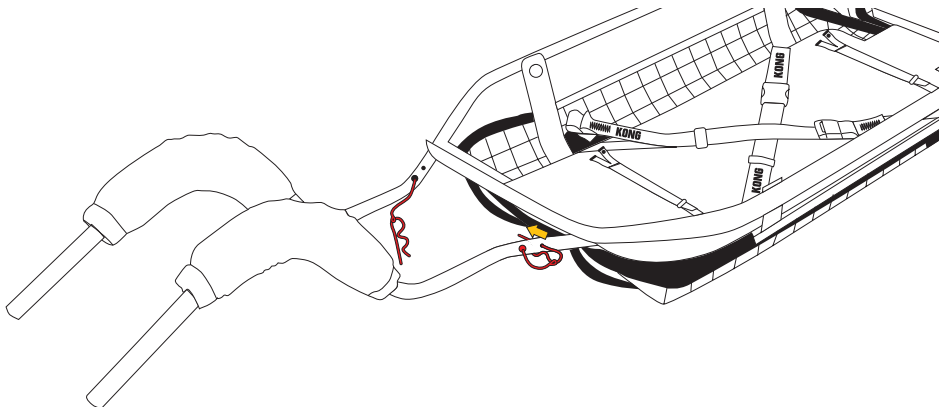

Fig.16
- b) Lock the connection by inserting the shaped plug into the corresponding hole (Fig. 16).